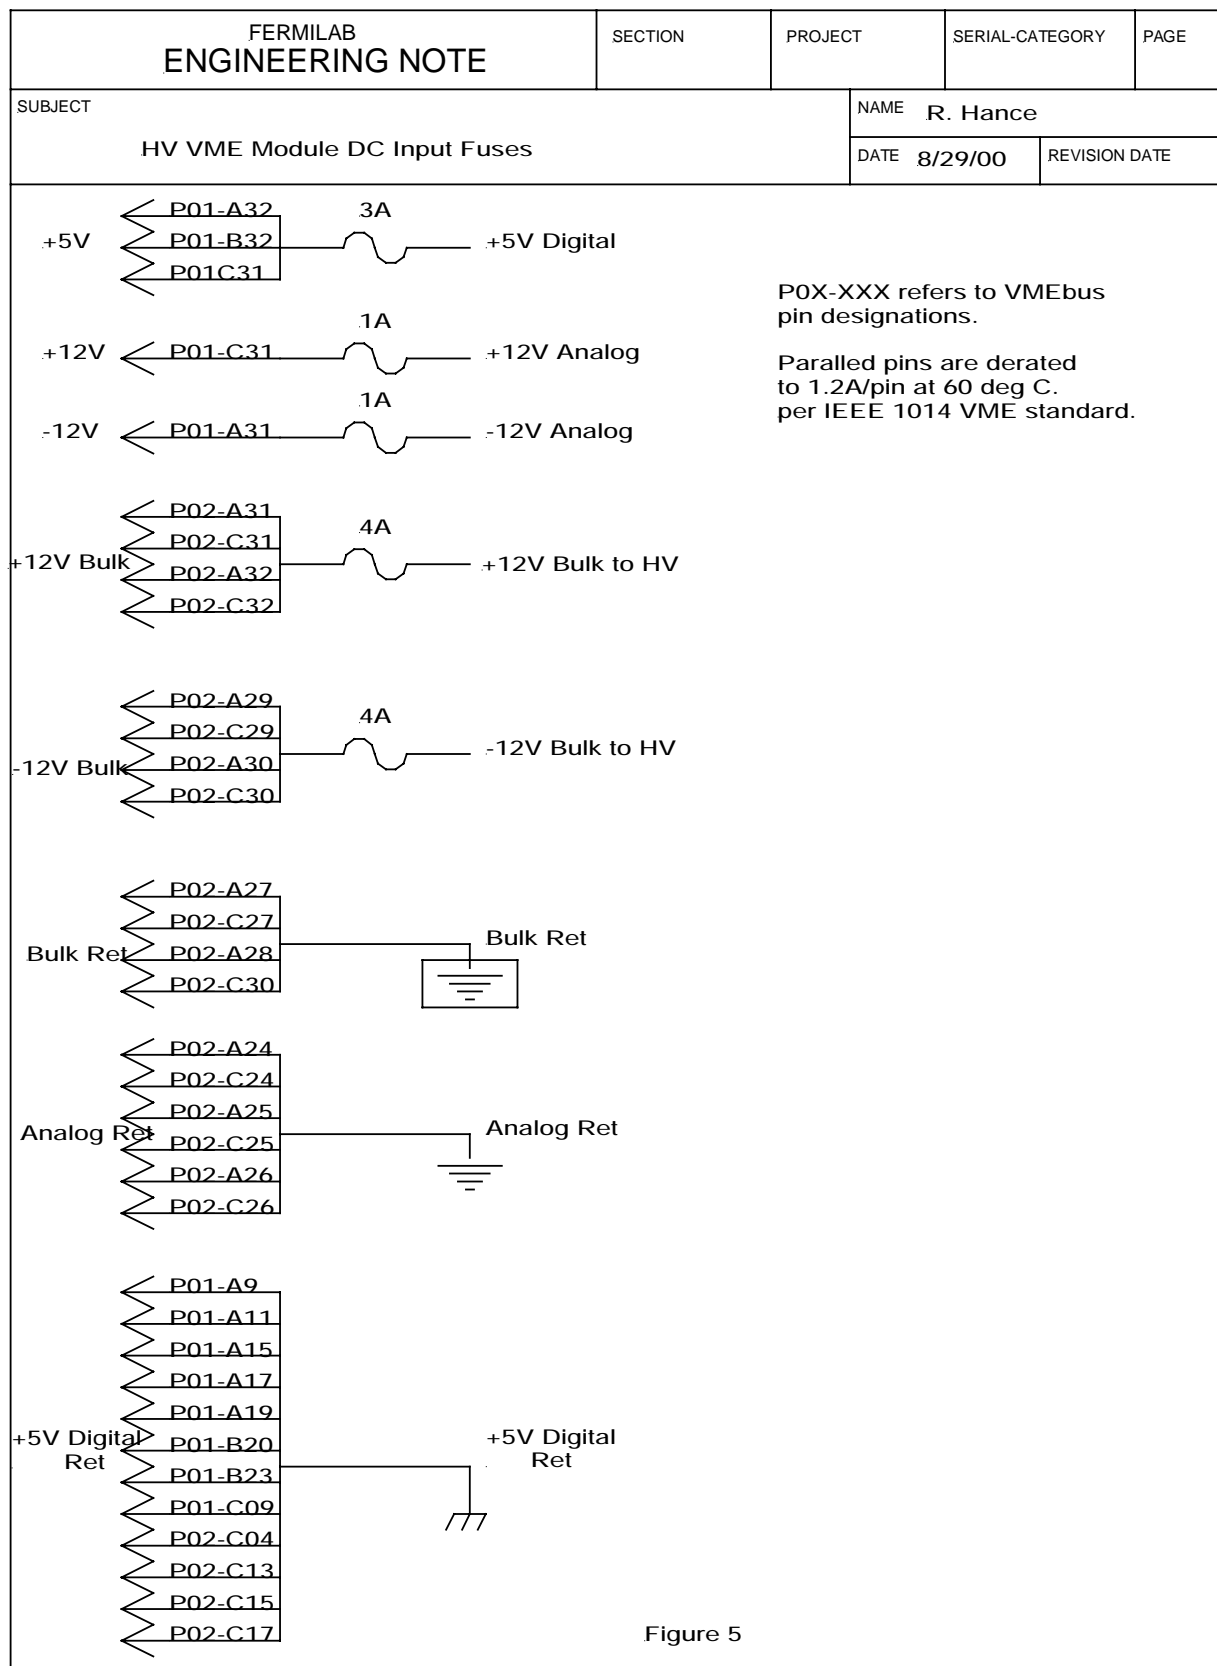

Figure 5
**Module Fusing:** Each VME HV module uses 5 separate voltages from the VME backplane (+5V,  $\pm 12V$  analog,  $\pm 12V$  bulk). The +5V and the  $\pm 12V$  bulk use multiple VME pins in parallel as required to limit the current density to acceptable values. Each voltage is fused near the VME input connector as shown in figure 5.